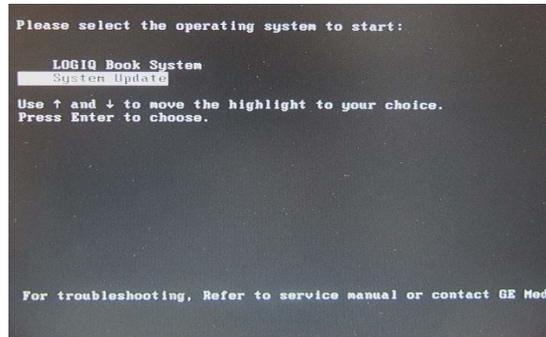

Figure 3-25 System Update
- 4.) Turn on the scanner. You will see a message displayed on the LCD as shown in Figure 3-25 on page 3-25.